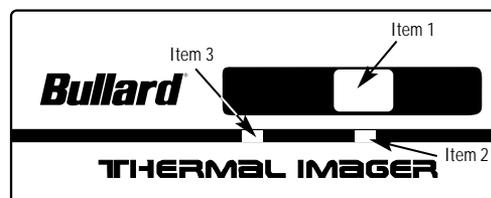

Figure 8
There are three holes in the plate covering the charger. One hole is for the direct charge cable and two are to allow the user to view the LED lights. Insert one end of the direct charge cable into the hole provided on the right (Figure 8, item 1). Insert the opposite end of the direct charge cable into the direct charge port located on the handle of the thermal imager. A red light will illuminate on the charger to indicate that the camera battery is charging (Figure 8, item 2). When the light on the charger turns to green, your battery will be fully charged. You may leave the battery in the charger indefinitely. A battery in the charger and a battery installed in the camera may be charged simultaneously. There is a second indicator light for the battery in the charger (Figure 8, item 3). Charging both batteries at the same time will not cause any damage to the batteries or charging unit.